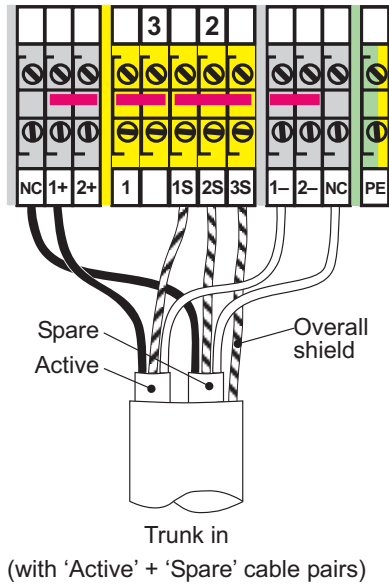

Figure 4.5 - 'Trunk In' with Active & Spare cable pairs
- c) Connect the prepared ends of the fieldbus trunk cable(s) into the appropriate '+', '-', and 'S' terminals, shown in Figure 4.5, and tighten the screw terminals to a recommended torque of 0.6 Nm.
**Note:** Figure 4.5 shows the screw-terminal '-PS' enclosure option, but the '-PC' cage-clamp terminal arrangement is similar.